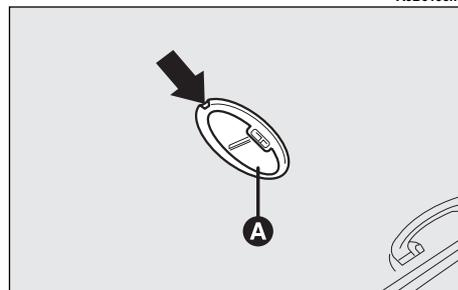

fig. 57
– Remove the rooflight (**A-fig. 57**) levering in the point shown by the arrow.